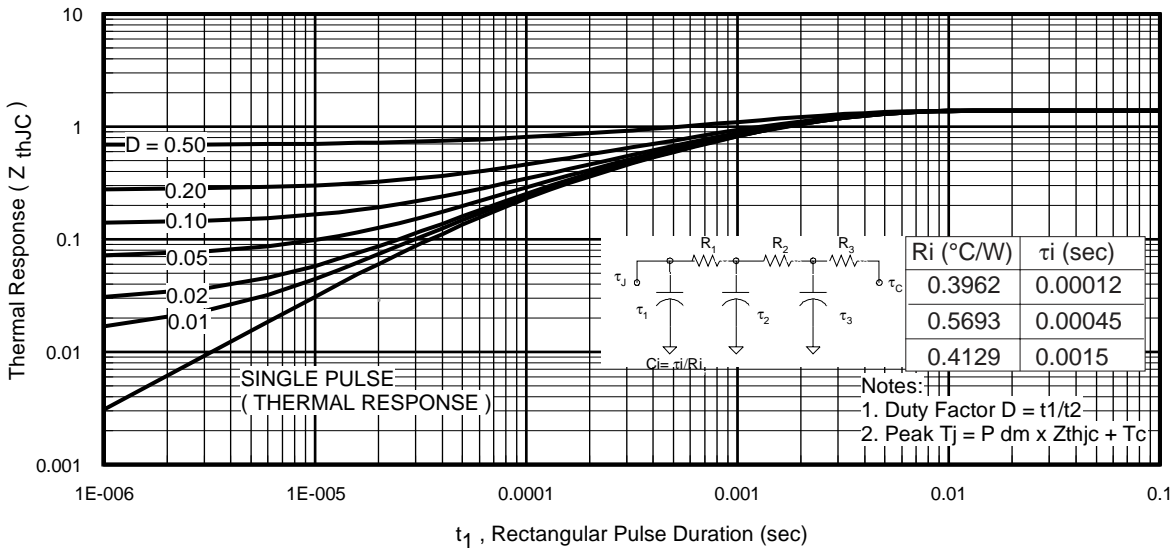
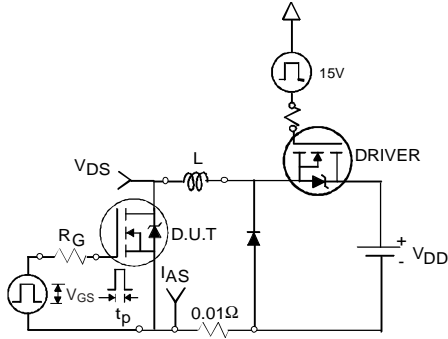

Fig 11. Maximum Effective Transient Thermal Impedance, Junction-to-Case
Fig 12a. Unclamped Inductive Test Circuit
3. Equation below based on circuit and waveforms shown in Figures 12a, 12b.
$Z_{thJC}(D, t_{av})$ = Transient thermal resistance, see figure 11)
- ① Repetitive rating; pulse width limited by max. junction temperature. (See fig. 11).
- ② Limited by T_{Jmax} ; starting $T_J = 25^\circ\text{C}$, $L = 0.08\text{mH}$, $R_G = 25\Omega$, $I_{AS} = 36\text{A}$, $V_{GS} = 10\text{V}$. Part not recommended for use above this value.
- ③ Pulse width $\leq 1.0\text{ms}$; duty cycle $\leq 2\%$.
- ④ C_{OSS} eff. is a fixed capacitance that gives the same charging time as C_{OSS} while V_{DS} is rising from 0 to 80% V_{DSS} .
- ⑤ Limited by T_{Jmax} , see Fig.12a, 12b, 15, 16 for typical repetitive avalanche performance.
- ⑥ This value determined from sample failure population. 100% tested to this value in production.
- ⑦ When mounted on 1" square PCB (FR-4 or G-10 Material). For recommended footprint and soldering techniques refer to application note #AN-994
- ⑧ R_θ is measured at T_J approximately 90°C